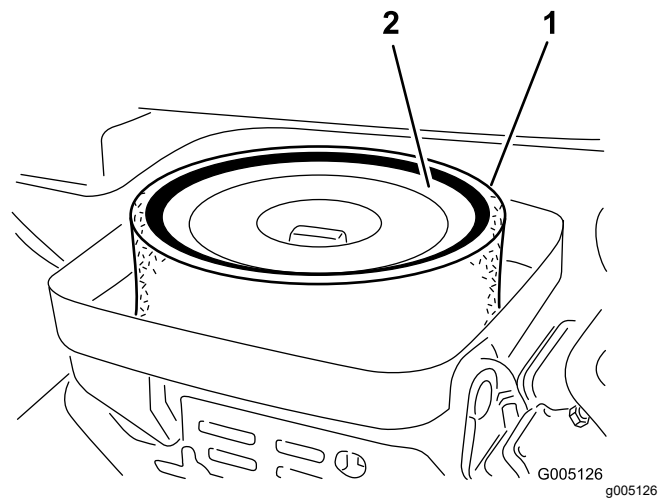

Figure 32
3. Remove the wing nut securing the elements to the air-cleaner body (Figure 32).
4. If the foam element is dirty, remove it from the paper element (Figure 32). Clean it thoroughly, as follows: